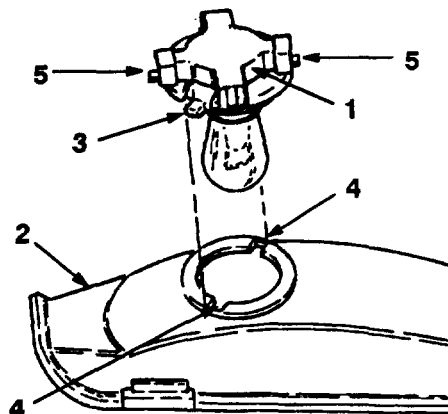

Figure 17
3. Rotate the bulb holder 1/4 turn counterclockwise and remove it from the reflector (Fig. 17).